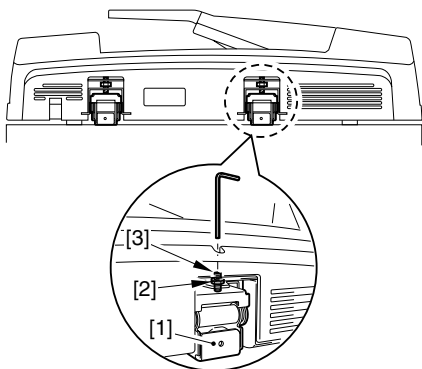

Fig. 4-2
- 1) Using a spanner, loosen the nut [2] on the upper part of the right hinge [1]. (See Fig. 4-2)